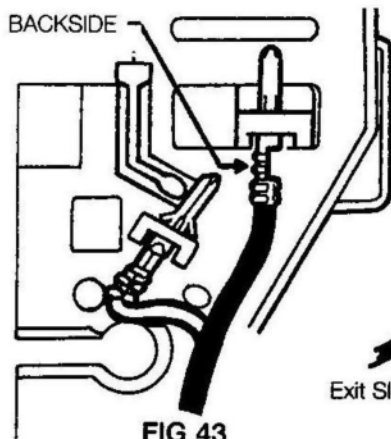

FIG 43
3. Fit bayonet terminals of new switch wire (Fig 43).
The right terminal pushed into the red switch slide **MUST** have it's "backside" facing left, towards the left terminal. The left terminal, when pushed into the black cover must lay on it's "back" (Fig 43).